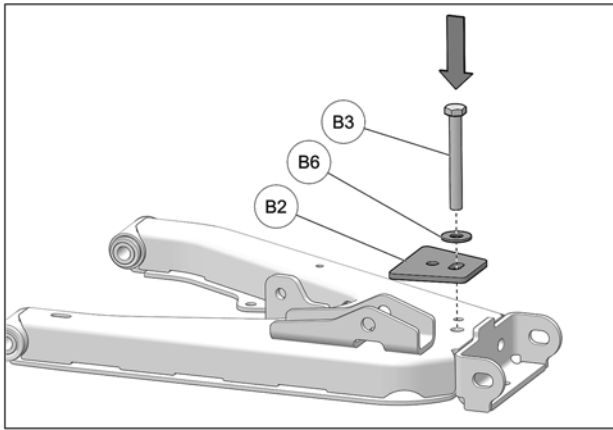

Fig. 4
- Position bracket cover (B2) over lower suspension arm. From the top, insert bolt (B3) w/ washer (B6) through bracket cover, and lower suspension a-arm. See Fig. 4